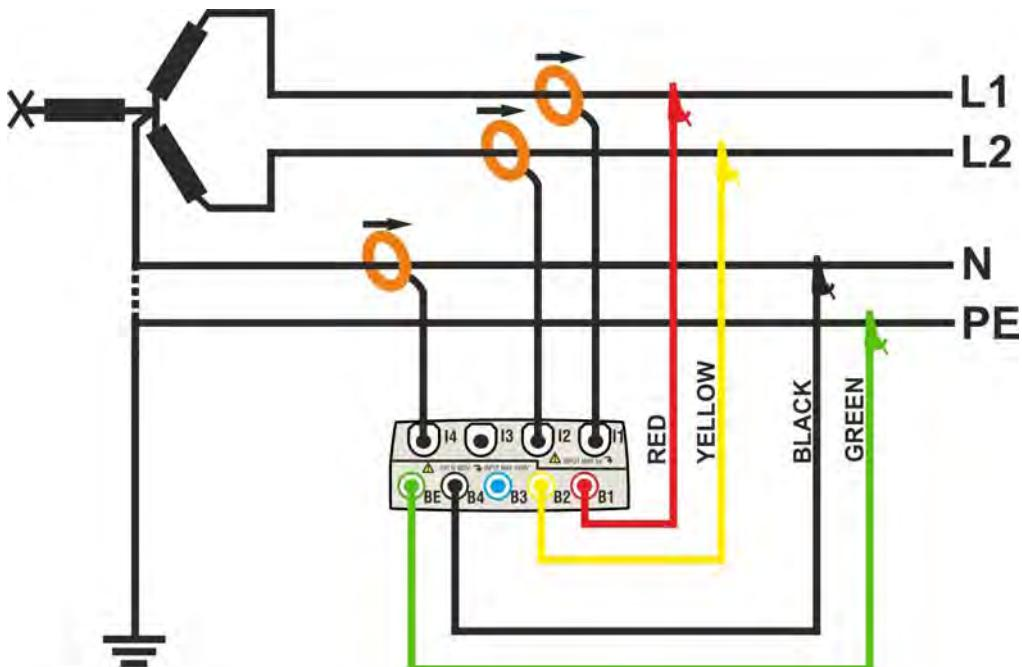

Fig. 129: Meter connection in a two phase 3-wire 3P OY system – ENG type
2. Connect voltage test leads on Phases L1, L2, N and PE cables considering the colours as shown in Fig. 129
3. Connect the transducer current clamps on Phase L1, L2, N cables as shown in Fig. 129 respecting the clamp's arrow direction indicating the current standard sequence from generator to load. **On Real Time Values' section screens (selecting a 3 wire system preliminarily) always verify the positive value of Active Power and the power factor relative to load which should be normally inductive** before starting a recording. Reverse the clamp by 180 degrees on cables in case of negative readings.